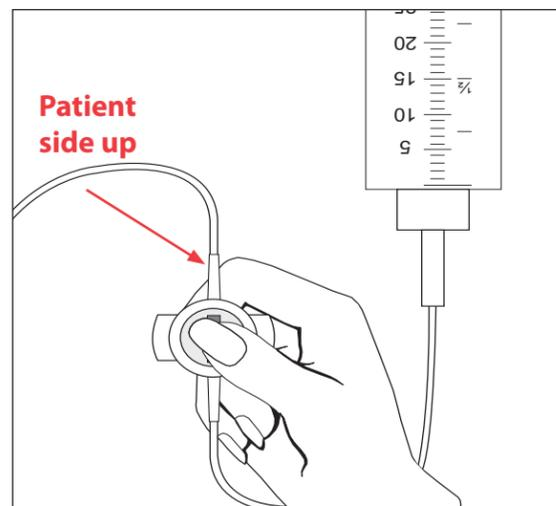

fig. 3
- a. If pressure sensing disc is used, hold the disc between two fingers and invert so patient side is up (fig. 3)